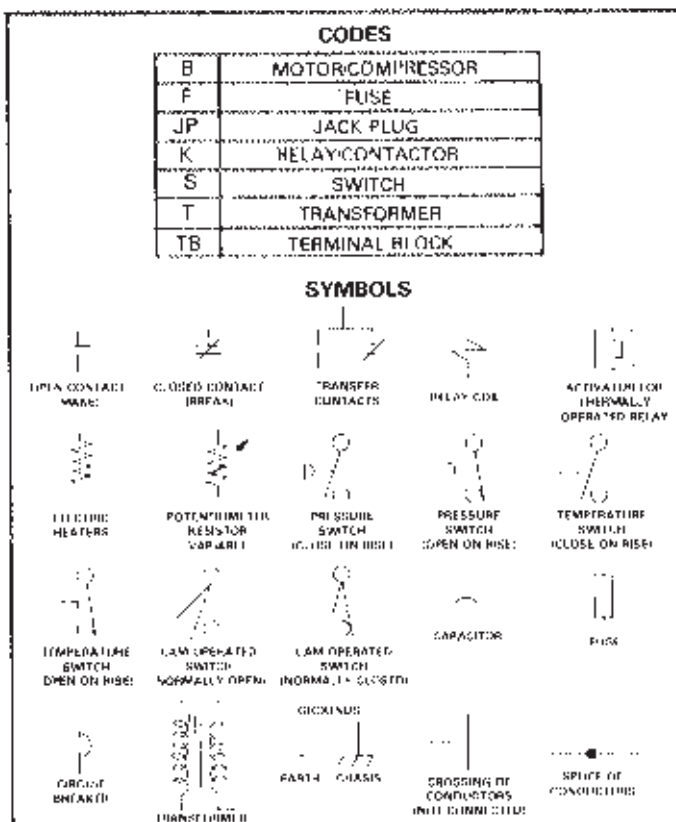

FIGURE 22
- 2 The graphic symbols for components and code lettering conforms to the "IEEE Standard and American National Standard" of graphic symbols for electrical diagrams. All symbols and code lettering used are approved by the International Electrotechnical Commission (IEC). Refer to Figure 22 for code and symbol identification.